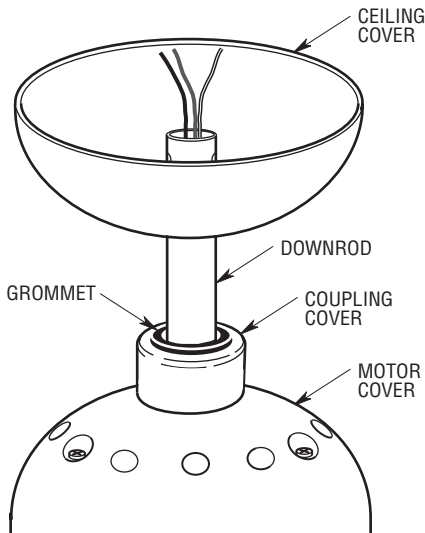

Figure 9
- 16. Make sure the grommet is properly installed in the coupling cover then slide the coupling cover over the downrod until it rests on the motor housing cover. Place the ceiling cover over the downrod. Be sure both the ceiling cover and the coupler cover are oriented correctly (Figure 9).